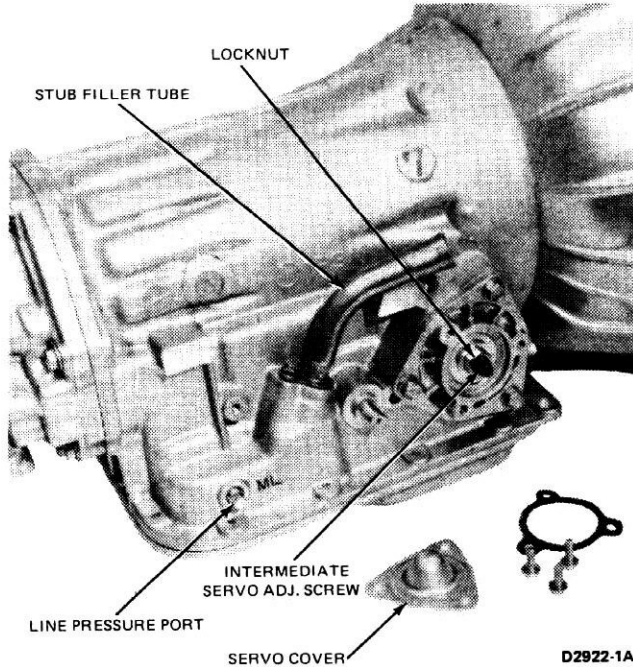

FIG. 4 Adjusting Intermediate Band
3. Loosen the intermediate band adjusting screw lock nut and tighten the adjusting screw to 10 ft-lb torque (Fig. 4).